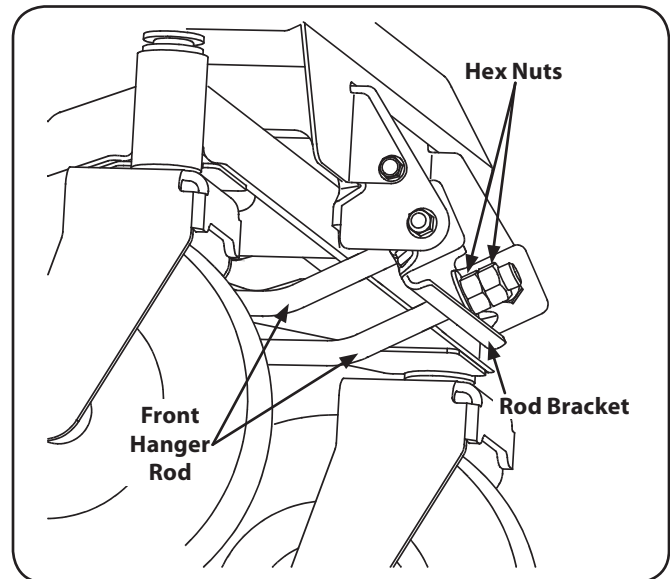

Figure 6-7
4. From the front of the tractor, loosen the outer hex nuts on the deck front hanger rod and turn them away from the inner nuts. Refer to Fig. 6-7.
5. If the front of the deck was too low, turn the inner hex nuts clockwise against the hanger bracket to shorten the front hanger rod and raise the front of the deck. Refer to Fig. 6-7.